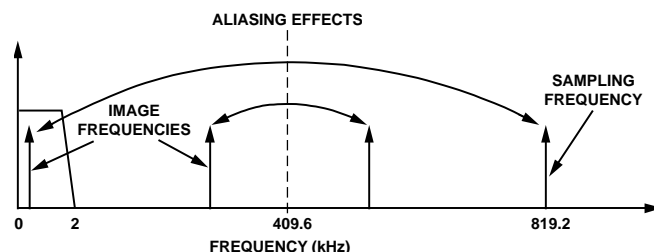

Figure 20. ADC and Signal Processing in current channel Outline Dimensions
Figure 18 also shows an analog low-pass filter (RC) on the input to the modulator. This filter is present to prevent aliasing. Aliasing is an artifact of all sampled systems. Aliasing means that frequency components in the input signal to the ADC, which are higher than half the sampling rate of the ADC, appear in the sampled signal at a frequency below half the sampling rate. Figure 20 illustrates the effect. Frequency components (arrows shown in black) above half the sampling frequency (also known as the Nyquist frequency, i.e., 409.6 kHz) are imaged or folded back down below 409.6 kHz. This happens with all ADCs regardless of the architecture. In the example shown, only frequencies near the sampling frequency, i.e., 819.2 kHz, move into the band of interest for metering, i.e., 40 Hz to 2 kHz. This allows the use of a very simple LPF (low-pass filter) to attenuate high frequency (near 819.2 kHz) noise, and prevents distortion in the band of interest. For conventional current sensors, a simple RC filter (single-pole LPF) with a corner frequency of 10 kHz produces an attenuation of approximately 40 dB at 819.2 kHz — see Figure 20. The 20 dB per decade attenuation is usually sufficient to eliminate the effects of aliasing for conventional current sensors. However, for a di/dt sensor such as a Rogowski coil, the sensor has a 20 dB per decade gain. This neutralizes the -20 dB per decade attenuation produced by one simple LPF. Therefore, when using a di/dt sensor, care should be taken to offset the 20 dB per decade gain. One simple approach is to cascade two RC filters to produce the -40 dB per decade attenuation needed.